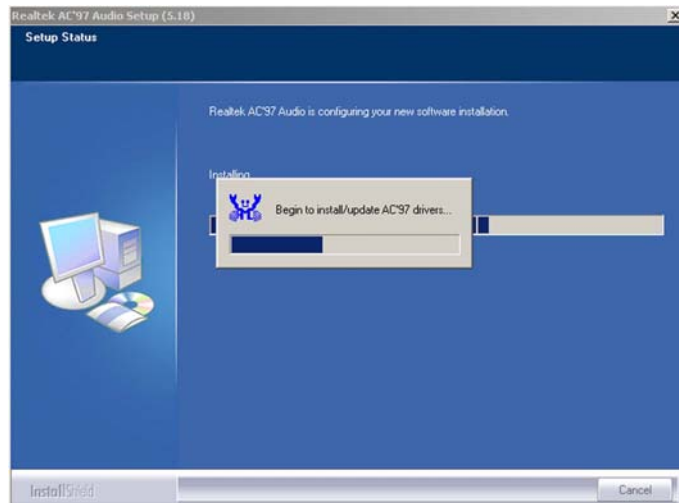

Figure 7-32: AC`97 Audio Driver Installation Begins
Step 8: After clicking the “Yes” button in **Figure 7-31**, the installation of the driver begins (Figure 7-32).